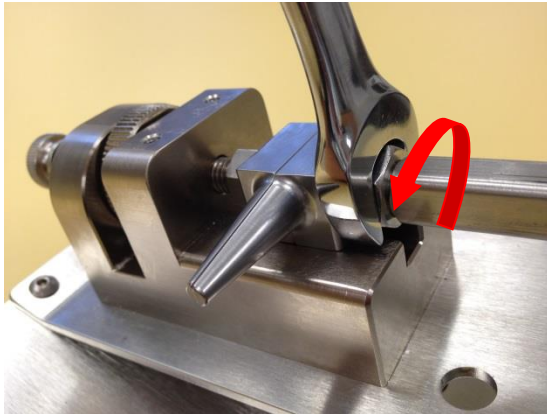

Figure 3.3.2
- Using a 3/4 open end wrench break the upper jaw nut loose. *Figure 3.3.2*